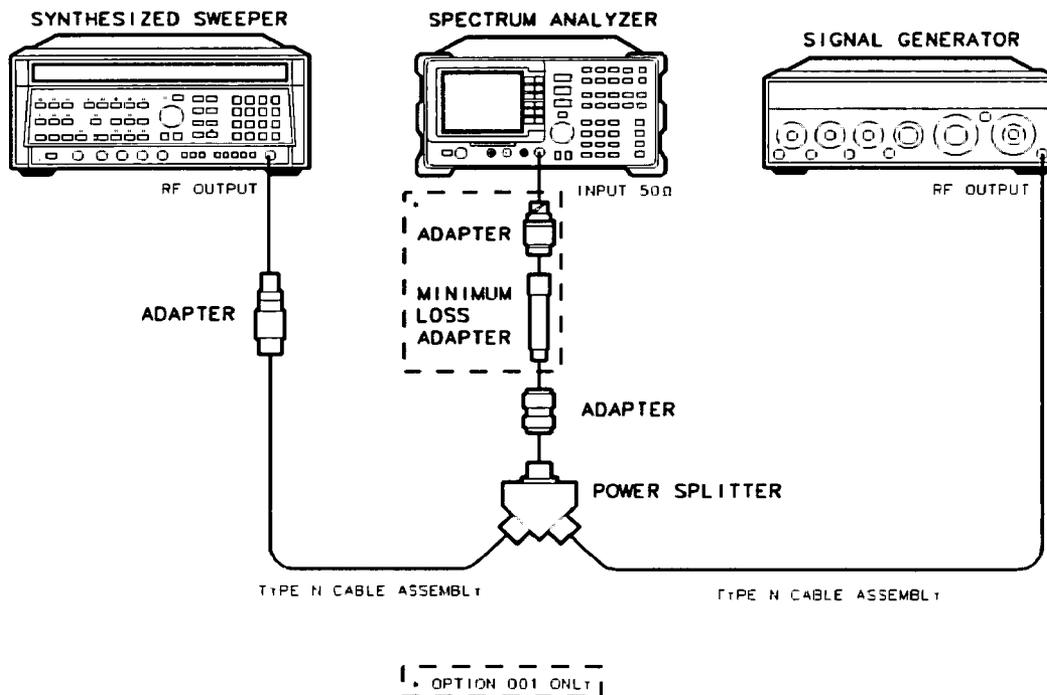

Figure 3-5. Frequency Span Accuracy Test Setup
1. Connect the equipment as shown in Figure 3-5. Note that the Power Splitter is used as a combiner. *Option 001:* Connect the minimum loss adapter to the INPUT 75 Ω using the appropriate adapters.